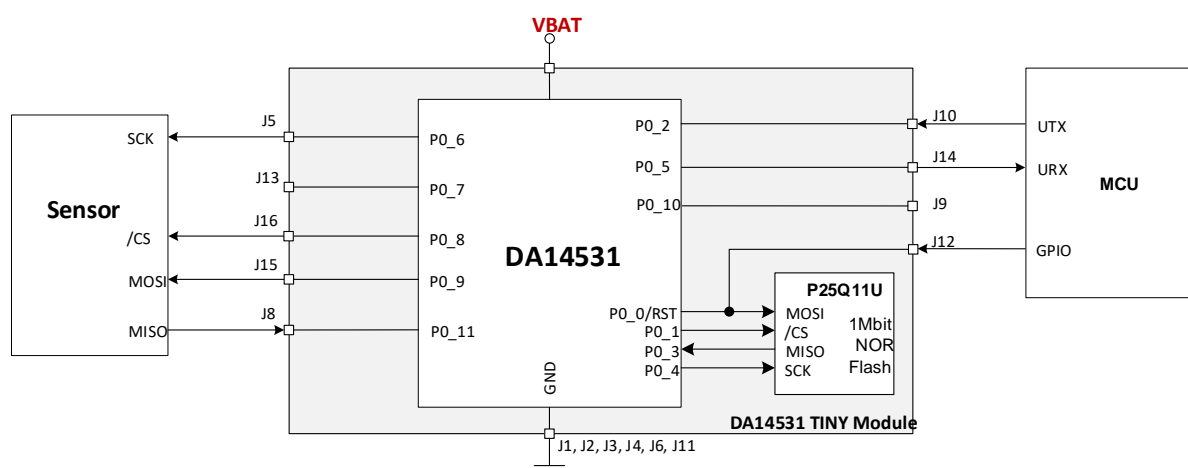

Figure 11: Example of Connecting a Sensor to the SPI Bus and an MCU to RST and UART
- The SPI Bus of DA14531 is used for the communication of the SoC with the NOR Flash at boot time. Three of the four signals are not driven to external module pins. For this reason, a sensor that utilizes the SPI bus must be assigned (by software) on to the module pins to communicate with after boot is completed and when NOR Flash is no longer in use. An example is given in Figure 11.